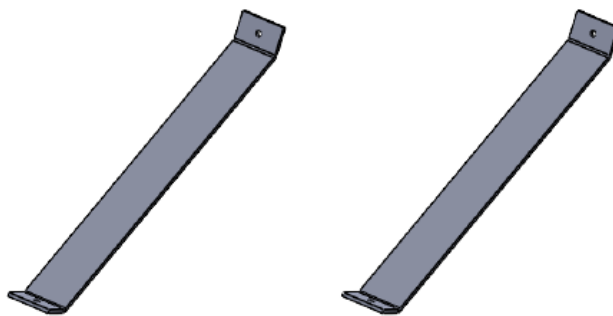

Figure 2 Stabilizer Brackets
- c) **Stabilizer Bracket (2)**, found in the middle shock absorber or taped to inside of cardboard crate : see Figure 2 Stabilizer Brackets